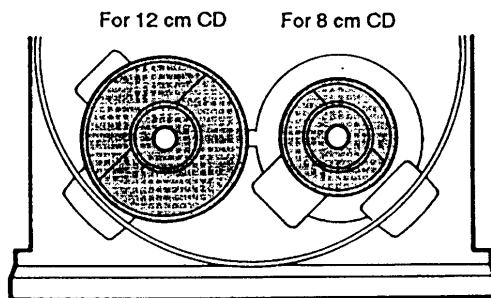

Fig. 7
2. Place the disc(s) with the label facing up on the disc tray(s) (Fig. 7).